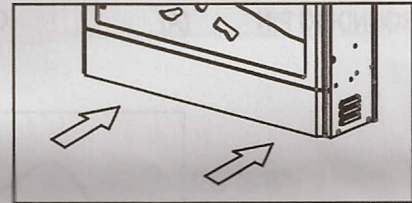

Fig.7
- Replace the cover panel (See Fig.7).